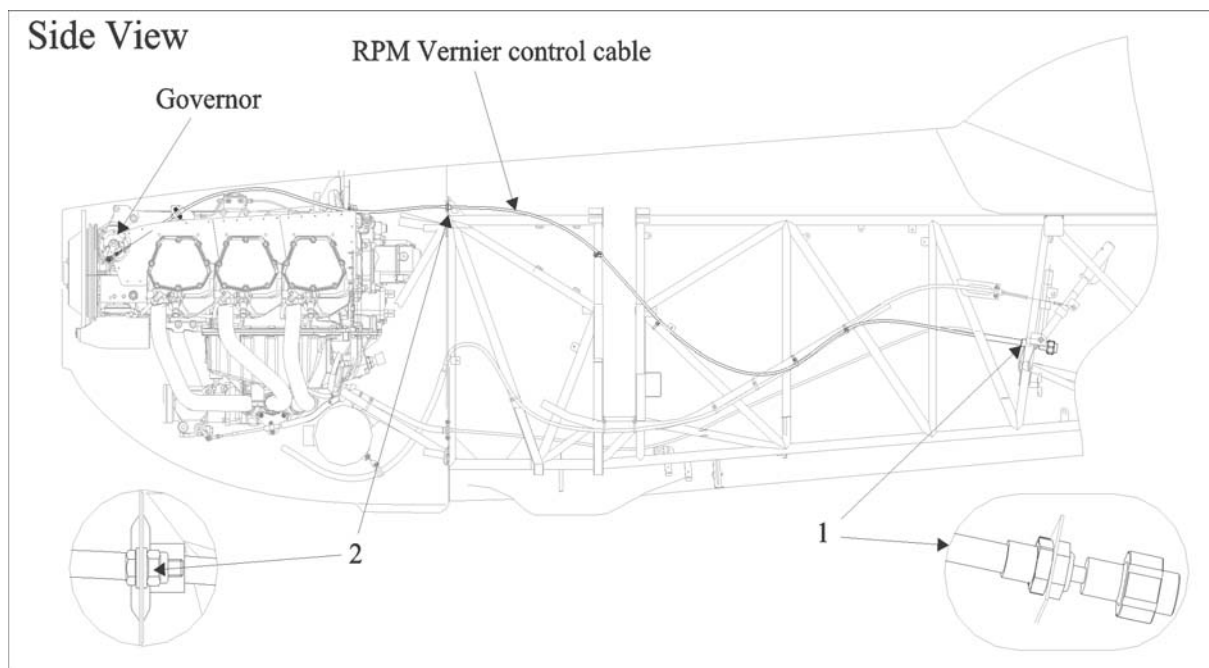
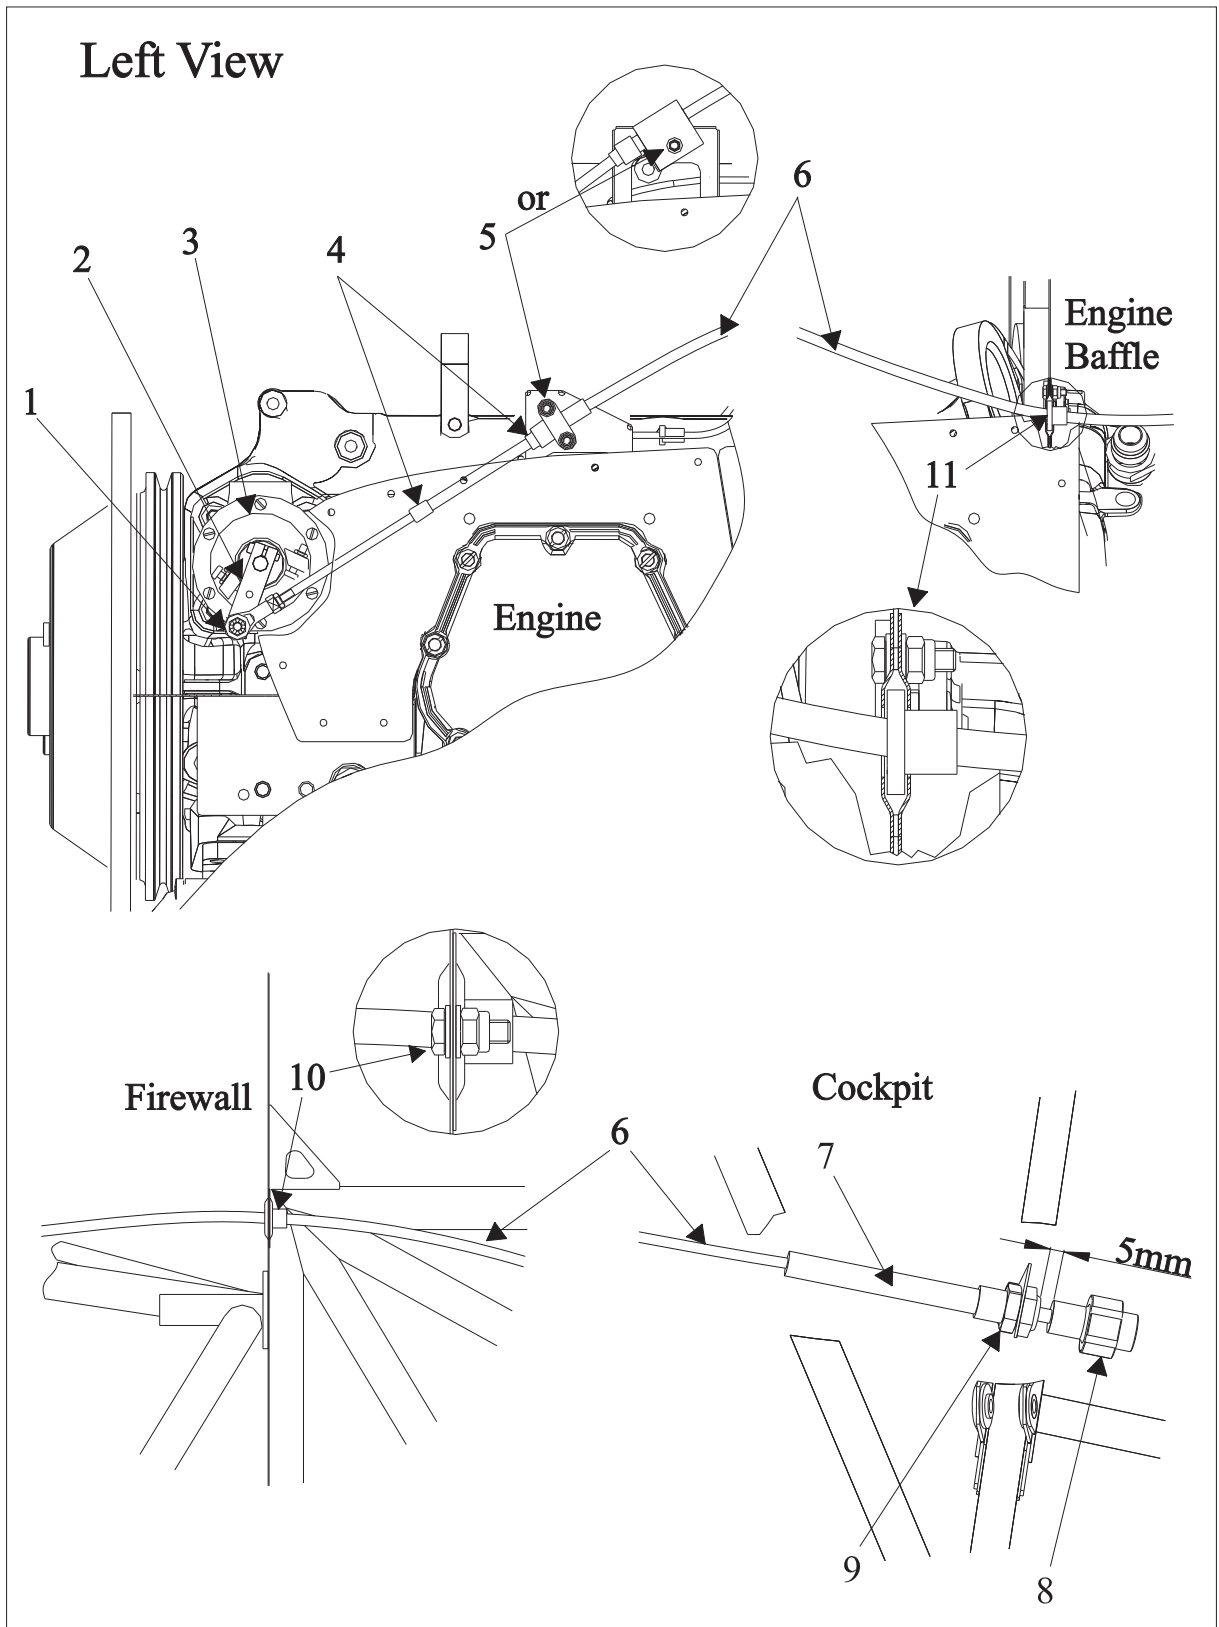

Figure 1
Figure 2
The propeller blade pitch change is conducted by a governor (refer to Figure 1). Once an engine rotational speed is selected it will be held constant independent of airspeed or power variations.
The governor itself is actuated via a vernier control cable ending on the left side of the rear cockpit (blue control knob; 1, Figure 1 & 8, Figure 2). This cable is routed on the left side of the fuselage, penetrates the firewall, the rear engine baffles and is then routed to the governor. The cable is attached at its front end to the engine by a clamp block and in the cockpit area to the steel tube structure by self-clinching plastic tiedown straps. The RPM vernier control unit is mounted to a fuselage bracket. The firewall and engine baffle penetrations are covered with clamp sheets. The firewall penetration (2, Figure 1) is additionally sealed with firewall sealant.
- 4 Remove cotter pin, castle nut, washers and bolt from the rod end (1, Figure 2) to governor control lever (2) attachment.
- 5 Loosen counter nut and remove the rod end (1) from the vernier control cable (6).
- 6 Remove rod end counter nut and vernier control cable protective swivel and wiper seal (4).
- 7 Remove clamp block (5) attachment bolt(s).
- 8 Remove clamp block from the vernier control cable (6).
- 9 Remove 2 bolts of the clamp sheet attachment positioned at the rear engine baffle break through (11). Disconnect both
- 10 Remove 2 bolts of the clamp sheet attachment positioned at the firewall break through (10). Disconnect clamp sheet and contained plastic guidance from the rear side of the firewall.
- 12 Remove attachment nut (9) and washer of the vernier control unit (7).